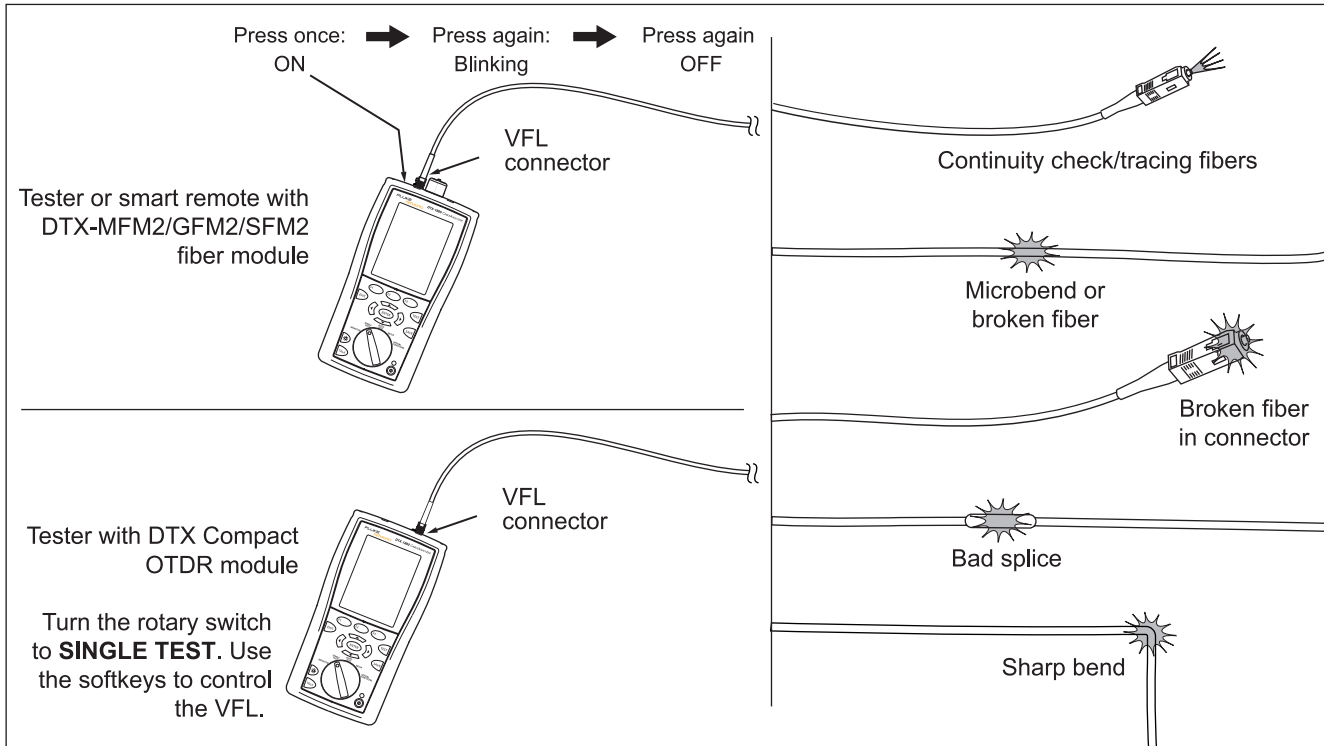

Figure 9-2. Using the Visual Fault Locator
- 3 Turn on the visual fault locator (refer to Figure 9-2):
- 4 Look for the red light to locate fibers or faults, as shown in Figure 9-2.